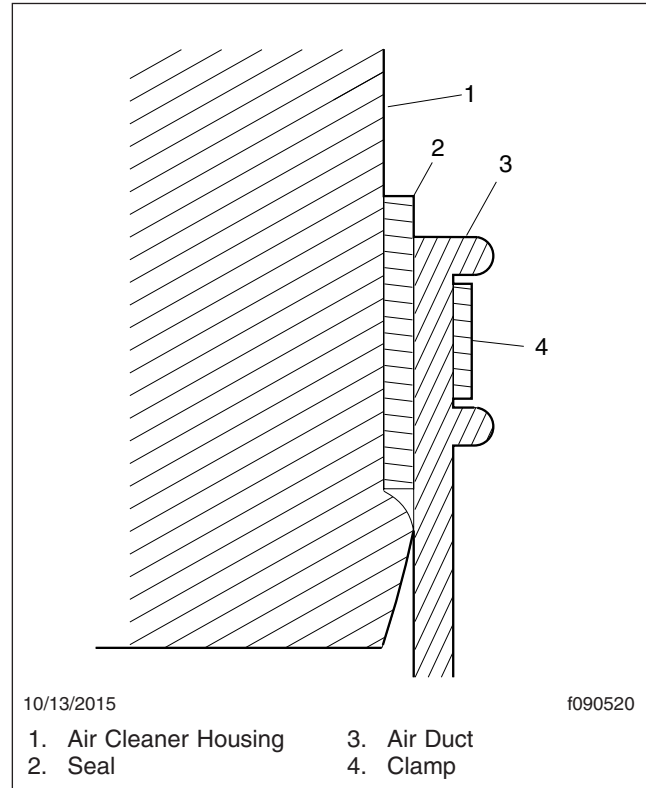

Fig. 5, Installation, Air Intake Seal and Housing
5. Apply P-80 Rubber Lubricant Emulsion to the seal and base of the air cleaner housing to help install the housing into the duct. See Fig. 5.